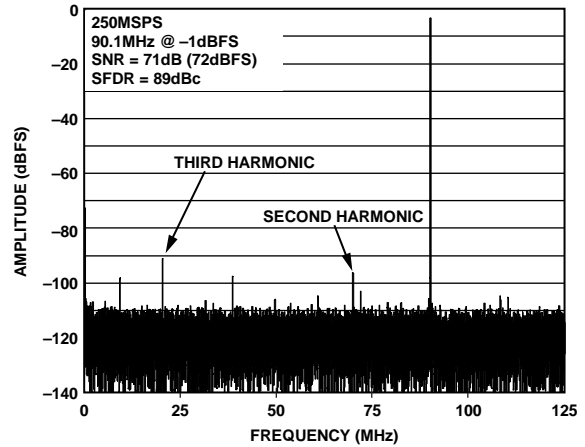

Figure 14. Typical FFT, AD9642
3. Click the **Save** disk icon within the **Graph** window to save the performance plot data as a .csv formatted file. See Figure 14 for an example.